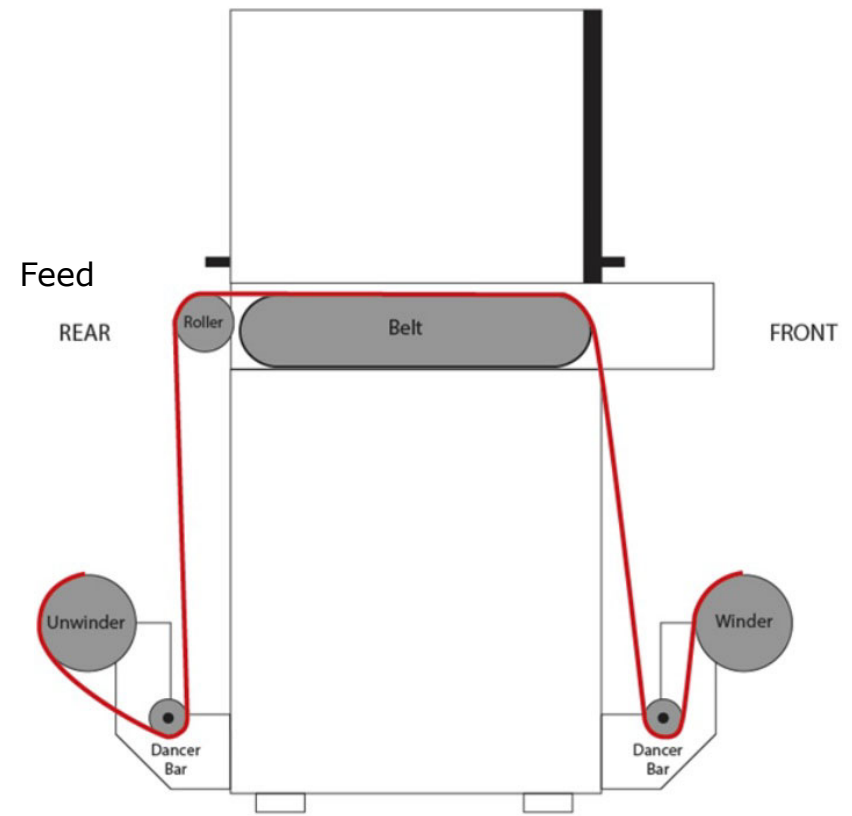

Figure 5-8: Image Surface on Inside of Media Roll
2. If the Image surface of the media is on the inside of the roll, load as shown in Figure 5-8.